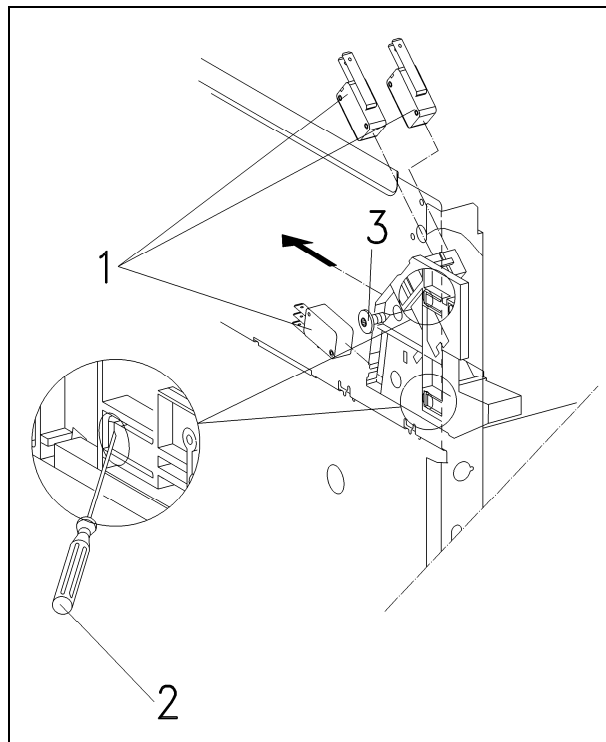

Figure 011-6: Door Lock Removal
3. Disconnect the connections to the safety switches (Figure 011-6, Item 1).
4. Insert a pointed tool into the openings in the side panel of the appliance and push in on the door lock notches (Figure 011-6, Item 2).
Should the door lock notches break off during disassembly, the door lock can be fastened again using a flat screw (mat. no. 04274261). See Figure 011-6, Item 3 (the side panel will have to be removed).